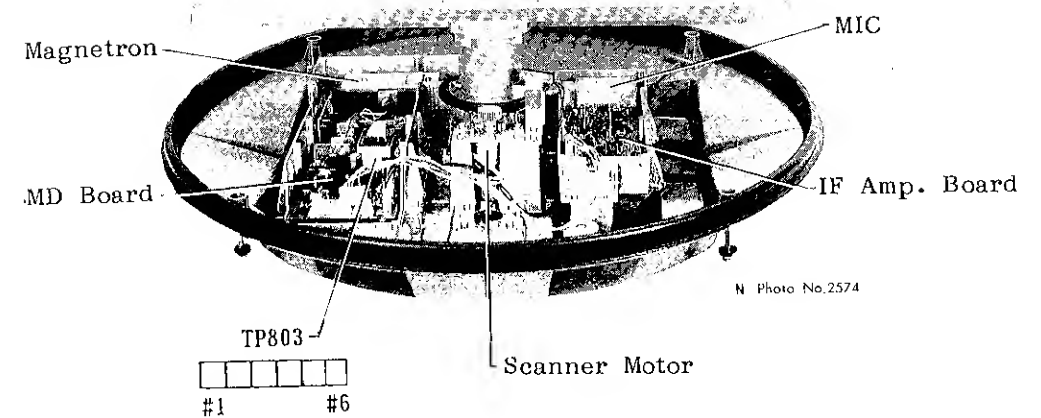

Fig.5-3 Scanner Unit Inside View
2. Connect a multimeter, set to 10VDC range, to pin #5(+) and #6(-) of TP803 on the MD board. See Fig.5-3.